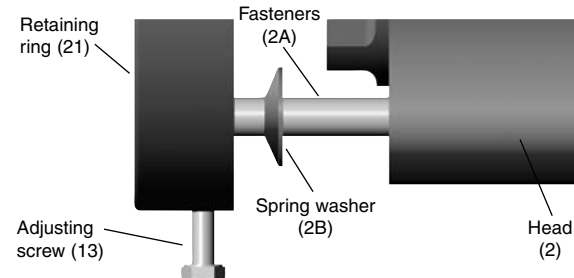

Figure 2
Slide the fasteners (2A) into the retaining ring (21). Slide the spring washers (2B) over the fasteners (2A). Make sure that the washer is installed with the cone facing the retaining ring as shown in Figure 2.